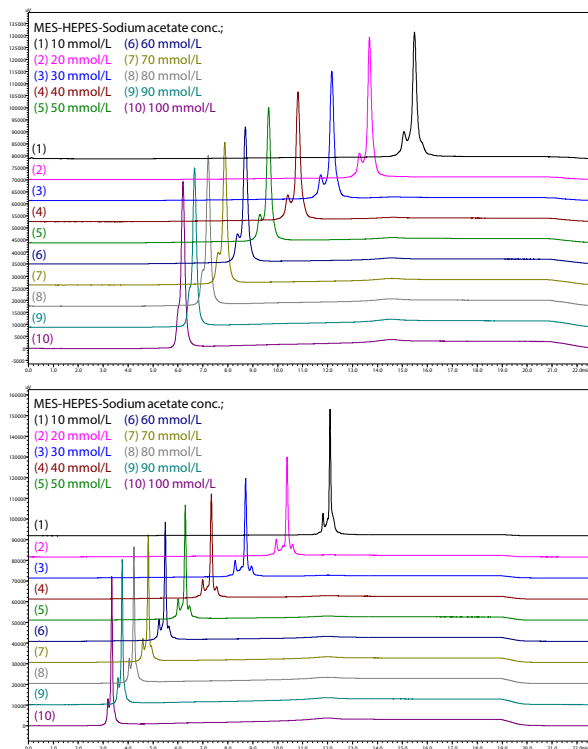

Fig. 2 Chromatograms Obtained from the Screening
Chromatograms from the screening, measured under different MES-HEPES-sodium acetate concentration conditions in mobile phases, are shown in Fig. 2. Separation improved more using Shim-pack Bio IEX SP (porous type) than using Shim-pack Bio IEX SP-NP (non-porous type). It was also found that the MES-HEPES-sodium acetate concentration in mobile phases effected the separation of charge variants.
Fig. 3 shows the evaluation values obtained from mobile phase and column screening, listed in order from the highest to the lowest. It indicates that the 30 mmol/L MES-HEPES-sodium acetate mobile phase and the Shim-pack Bio IEX SP-NP (non-porous type) column provide the highest value as the optimal condition settings (chromatogram (3) of the bottom figure in Fig. 2, shown enlarged in Fig. 4).
(Enlargement of Chromatogram in Fig. 2 (3))